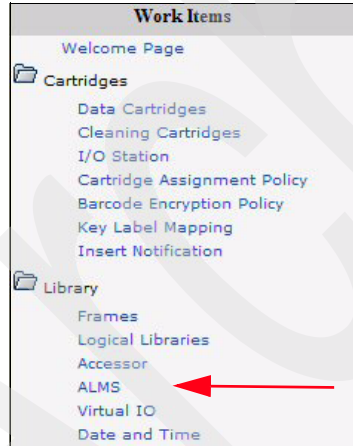

Figure 2-48 Enable ALMS
2. On the left side of the panel, select **Library** → **ALMS**. This displays a warning and a specific selection to **Enable ALMS** (Figure 2-48). The operation can take many minutes, according to the size of your library.
ALMS can also be disabled, but this should be done with care. After ALMS is enabled, the panel shown in Figure 2-48 on page 67 has the option **Disable ALMS** instead.